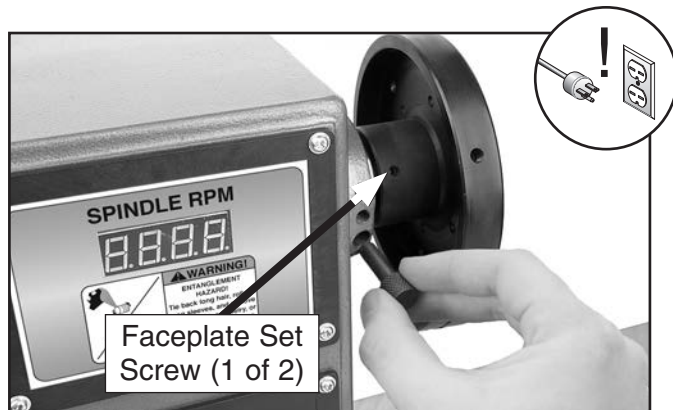

Figure 29. Locking spindle with indexing pin and faceplate set screw location.
2. Insert the indexing pin into one of the indexing holes and rotate the spindle until the pin engages to prevent the spindle from turning while you tighten the faceplate, as shown in **Figure 29**.
4. Using the included 4mm hex wrench, tighten the two set screws along the inside diameter of the faceplate to secure it to the spindle (see **Figure 29**).